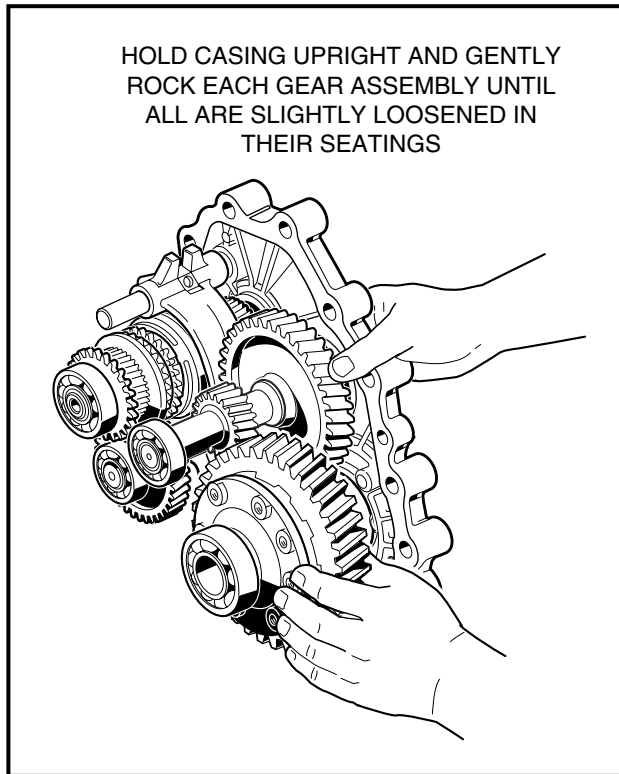

FIGURE 10-37
7. Turn the case section containing the gearing on edge as shown (**Figure 10-37**). While holding it in this position, gently rock all of the gear assemblies to loosen them slightly in their seating.